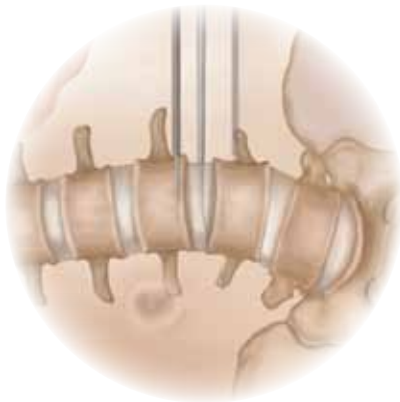
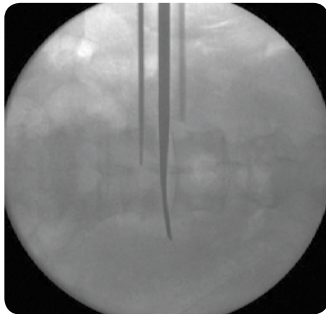

Figure 30
Figure 31
Step 6 A large Cobb is passed along both end plates to the contralateral annulus (**Figure 30**). A mallet is then used to gently release both the superior and inferior aspects of the contralateral annulus (**Figure 31**). This step is critical to ensure that appropriate distraction and coronal alignment can be achieved.